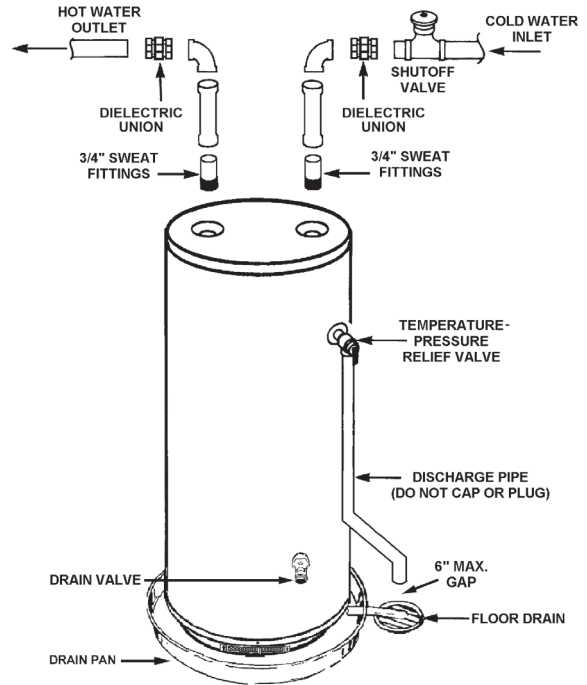

FIGURE 10.
**NOTE:** To protect against untimely corrosion of hot and cold water fittings, it is strongly recommended that di-electric unions or couplings be installed on this water heater when connected to copper pipe, see Figure 10 also.